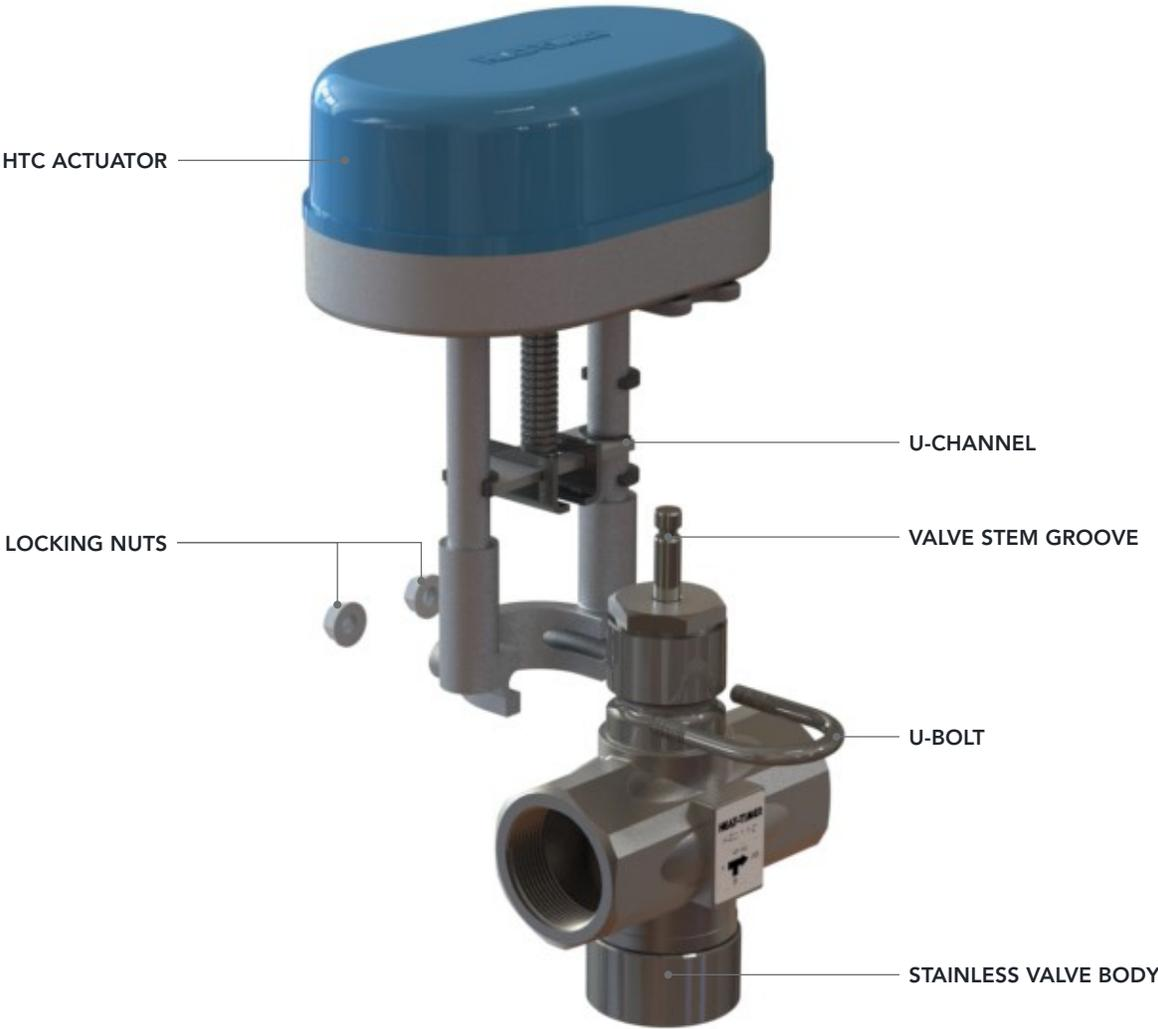

FIGURE 8
- 3 Mount the Actuator to the valve by sliding the valve stem groove into the Actuator U-channel as shown in *Figure 8*. If necessary, use the Actuator manual tab to adjust the position of the U-channel until it is aligned with the valve stem groove.
The U-bolt must also be aligned with the valve groove, as shown in *Figure 8*. If necessary use the actuator manual tab to adjust the position of the actuator frame and mounting holes to align the U-bolt with the valve body groove.